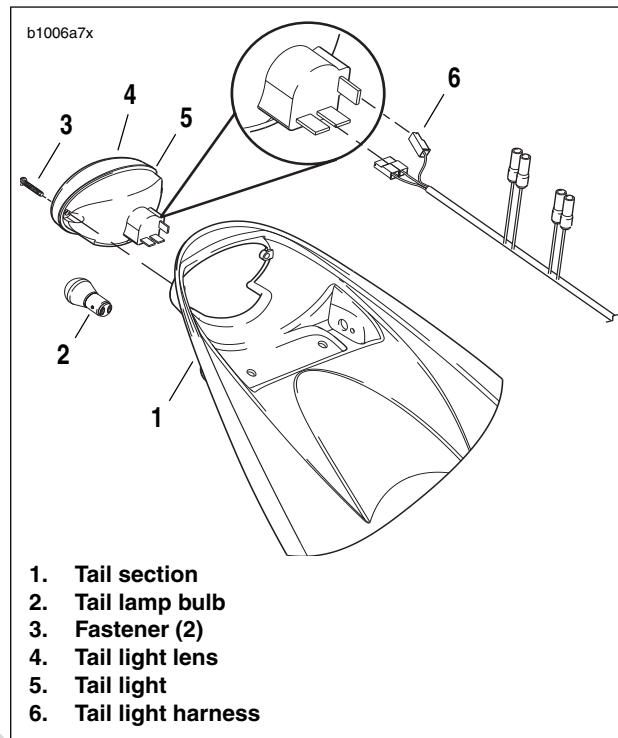

Figure 7-48. Tail Lamp Assembly
1. See Figure 7-48. Remove two screws (3) to detach tail light lens (4) and tail light (5). If replacing bulb (2), turn counterclockwise and remove.
3. Disconnect two connectors [93] from tail lamp harness (6).
1. See Figure 7-48. Attach the two tail light harness connectors [93] (6).
2. If removed, install tail lamp bulb (2).
- b. Install tail light lens (4) and tail light (5) with two fasteners (3).